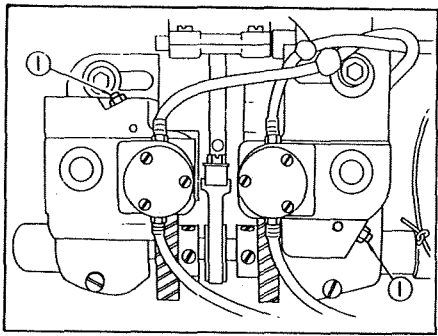

Fig. 6
The amount of oil to lubricate the sewing hook is increased by tightening the adjusting screws ① in Fig.6 and decreased by loosening them.